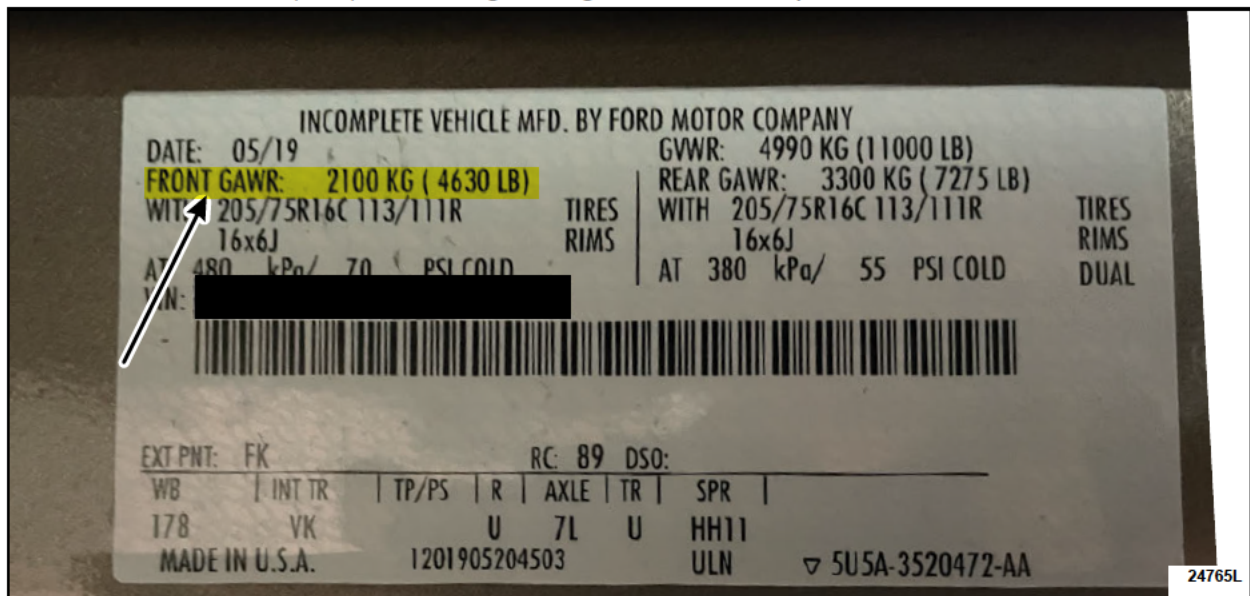

FIGURE 5
17. Check the Vehicle Identification Number (VIN) sticker located in the driver door jamb to identify the axle the vehicle is equipped with. See Figure 5.